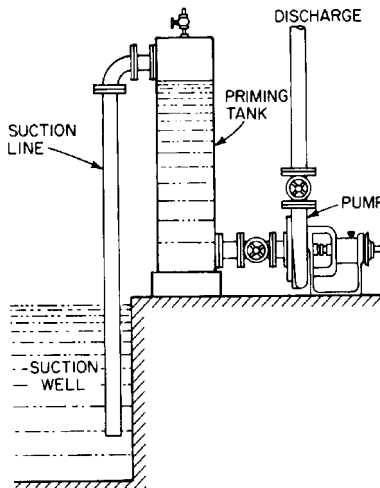

FIGURE 1 Single-chamber priming tank
**The Single-Chamber Tank** A single-chamber primer is a tank with a bottom outlet that is level with the pump suction nozzle and directly connected to it. An inlet at the top of the tank connects with the suction line (Figure 1). The size of the tank must be such that the volume contained between the top of the outlet and the bottom of the inlet is approximately three times the volume of the suction pipe. When the pump is shut down, the liquid in the suction line may leak out, but the liquid in the tank below the suction inlet cannot run back to the supply. When the pump is started, it will pump this entrapped liquid out of the priming chamber, creating a vacuum in the tank. The atmospheric pressure on the supply will force the liquid up the suction line into the priming chamber.